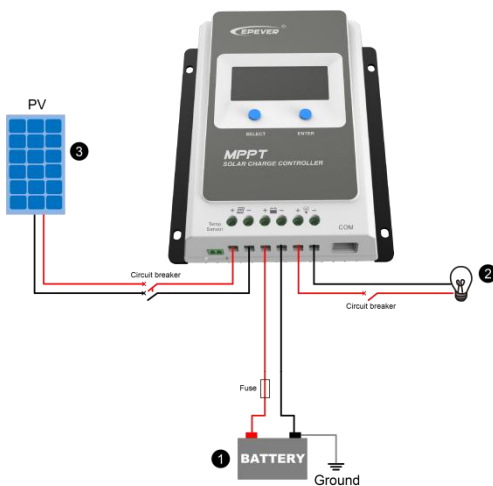

Figure 2-2 Schematic Wiring Diagram
**Step 2: Connect the system in the order of battery  -- load  --PV array  following Figure 2-2," Schematic Wiring Diagram," and disconnect the system in the reverse order.**